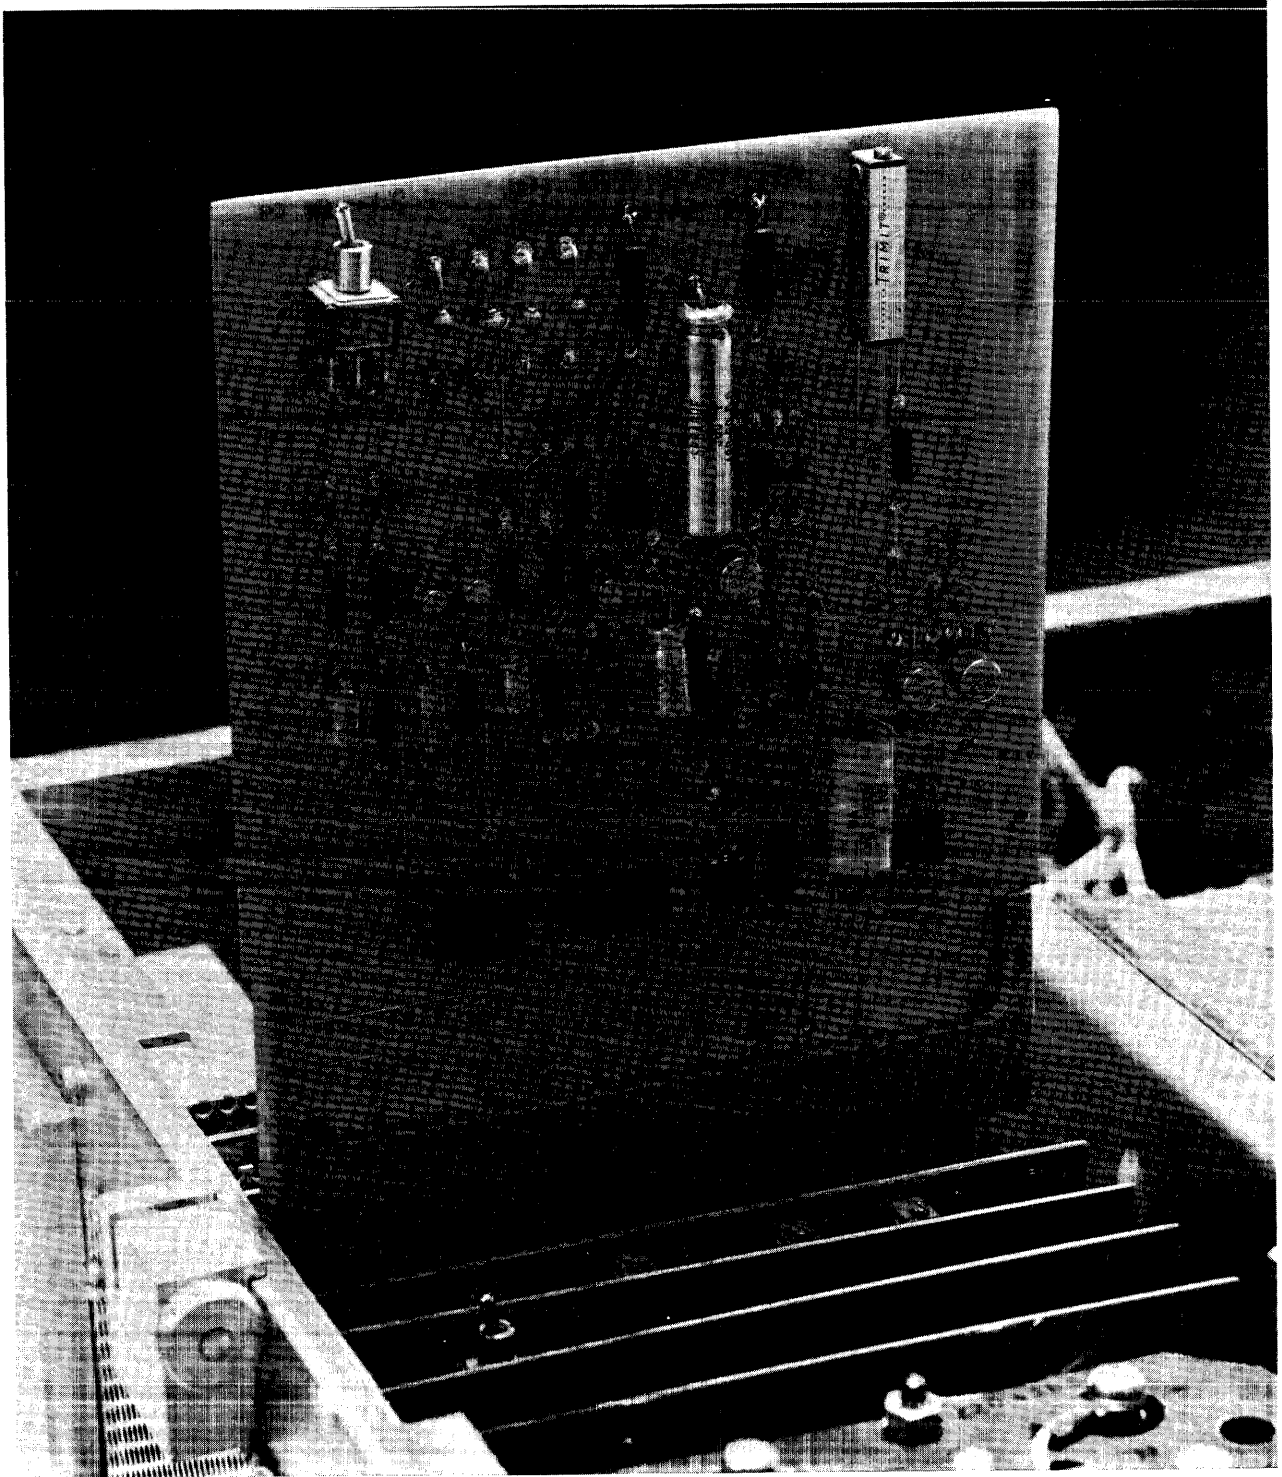

Figure 5-30. Logic Power Supply Card Extension
- a. Most low-level circuits are located on pluggable circuit cards which can be extended (with the use of a card extender, P/N 2207 0254) for ease of access. Refer to figure 5-30.